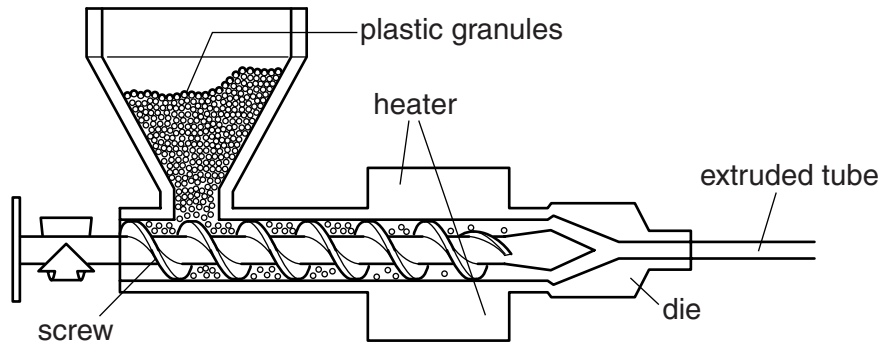

Fig. 13
- (c) Fig. 13 shows a cross-sectional view of an extrusion machine used to produce the tube for the desk tidy.